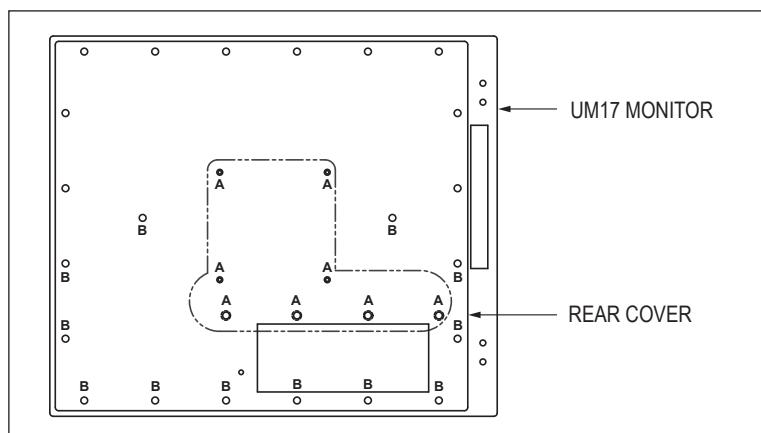

FIGURE 2
3. Prior to installing the fixed pedestal cover plate onto the rear of the monitor, remove and discard the eight screws and washers from the locations marked "A" in Figure 2.
4. Remove and set aside (do not discard) the twelve screws and washers from the locations marked "B" in Figure 2.